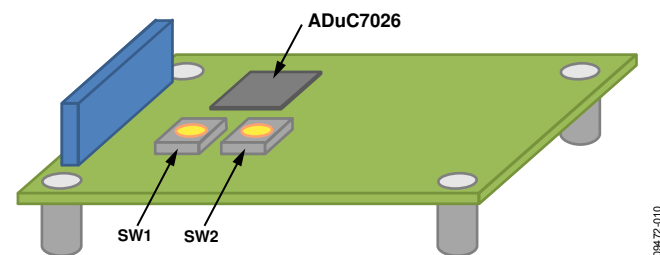

Figure 10. ISEB Switch Locations for Flashing the Microcontroller
2. Press the two buttons (shown in Figure 10) on the ISEB in the following order to flash the firmware: